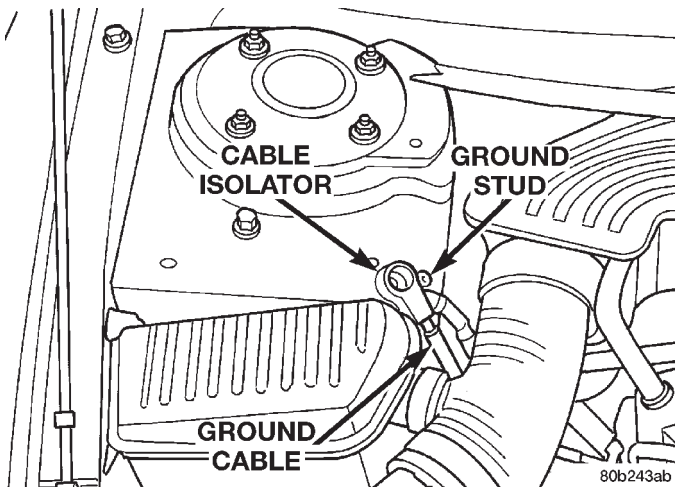

Fig. 61 Correctly Isolated Remote Ground Cable
(1) Remove remote ground cable from ground stud on shock tower. Then correctly isolate ground cable from vehicle by installing isolator on stud (Fig. 61).